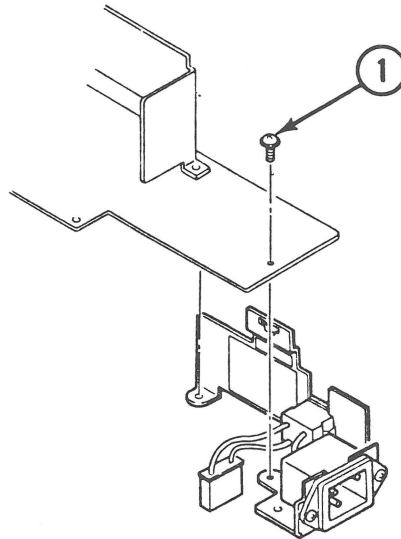

FIGURE 33
3. Remove the one screw that holds the switch to the case (Figure 33, #1), and remove the switch plate and plug assembly.
1. Replace the switch plate assembly on the case and secure it with the one screw (Figure 33, # 1) plus the ground wire screw from the power supply board.